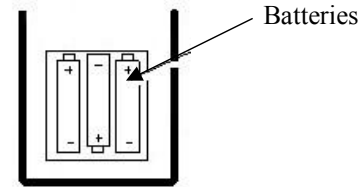

Fig. 6
2. Install three AAA batteries into the remote control (see Figure 6).